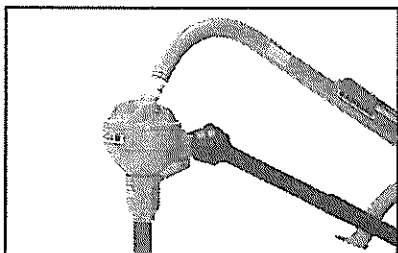

FIG. 9 - AUGER ADAPTER GUARD INSTALLED
STEP 12: Install the auger adapter shield PN 6137 around the auger adapter and secure to the shield assembly bracket PN 6139 with four Grade 5 bolts PN 2339 and four nuts PN 2168 (see Fig. 9).